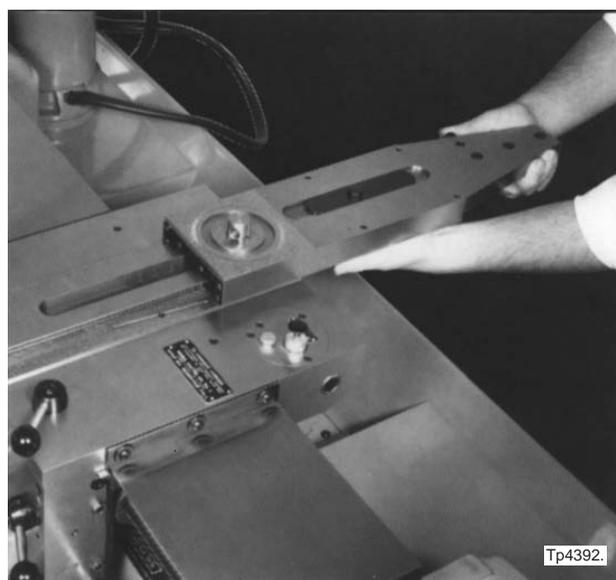

Figure 2.9 - Cross Slide Removal
6. Remove the cross slide from the rear of the machine by hand, as shown in Figure 2.9.